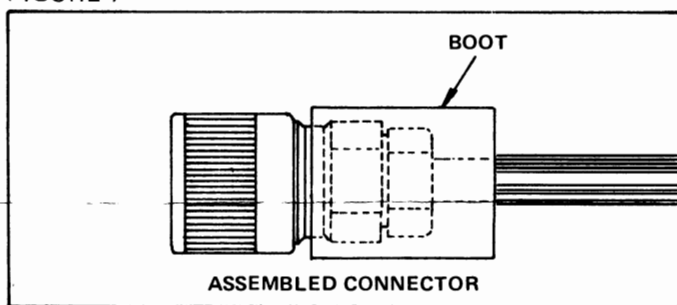

FIGURE 8
STEP 8. Place boot over assembly and seat it in groove of outer body. Refer to assembled connector in Figure 8.